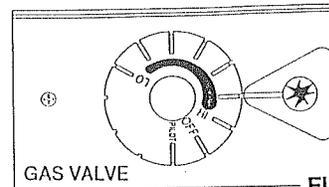

FIGURE 8
**DO NOT CONNECT THE GAS VALVE TO ELECTRICITY (110 VOLTS OR 24 VOLTS) FIGURE 8.**